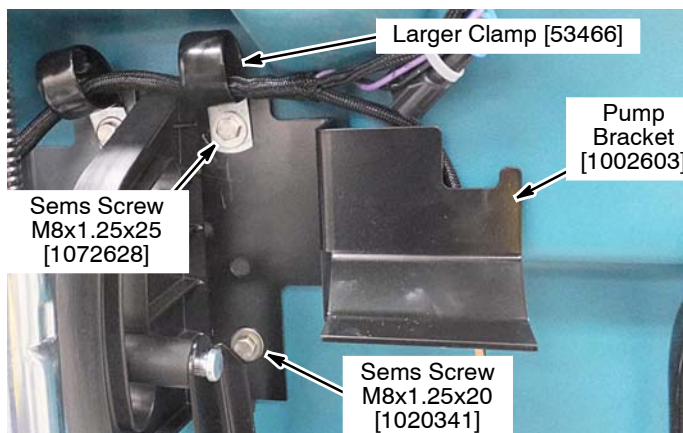

Fig. 16
2. Using larger clamp and new sems screw, install the pump bracket as shown (Figure 16). Reroute machine harness through clamp before connecting bracket.